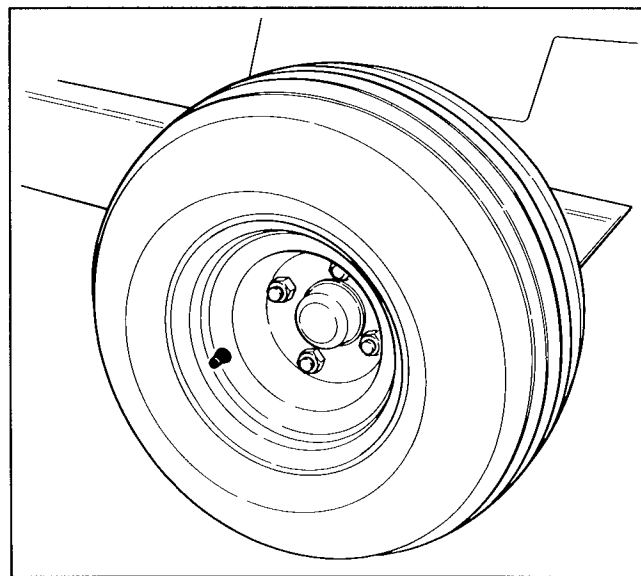

Figure 9
1. Secure wheels to spindle hubs with lug nuts (Fig. 9). Torque nuts to 65–90 ft–lb.